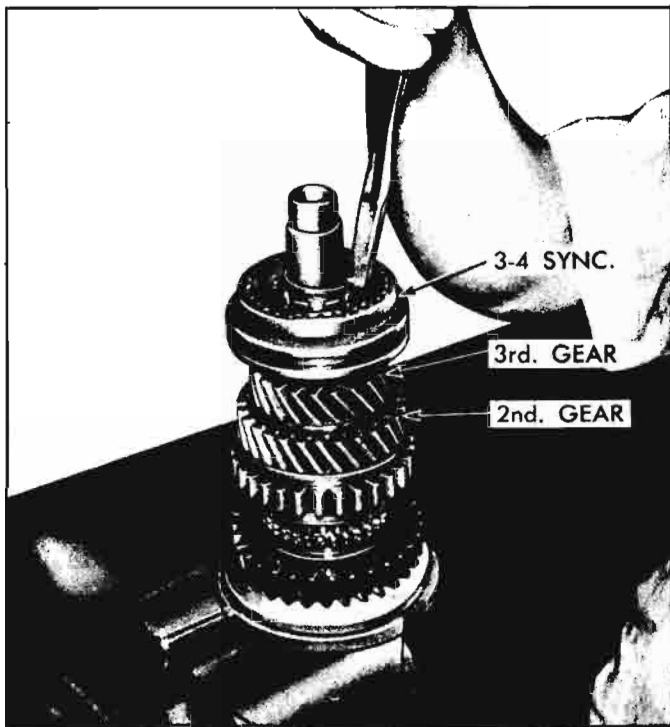

Fig. 6D-37—Mainshaft Front Components
2. Remove special snap ring (fig. 6D-37) from front of mainshaft, then slide 3-4 synchronizer unit with blocker rings, third speed gear, radial needle bearing, and second speed gear from mainshaft.
3. Remove rear bearing selective snap ring (fig. 6D-38), then remove rear bearing and retainer as an assembly.